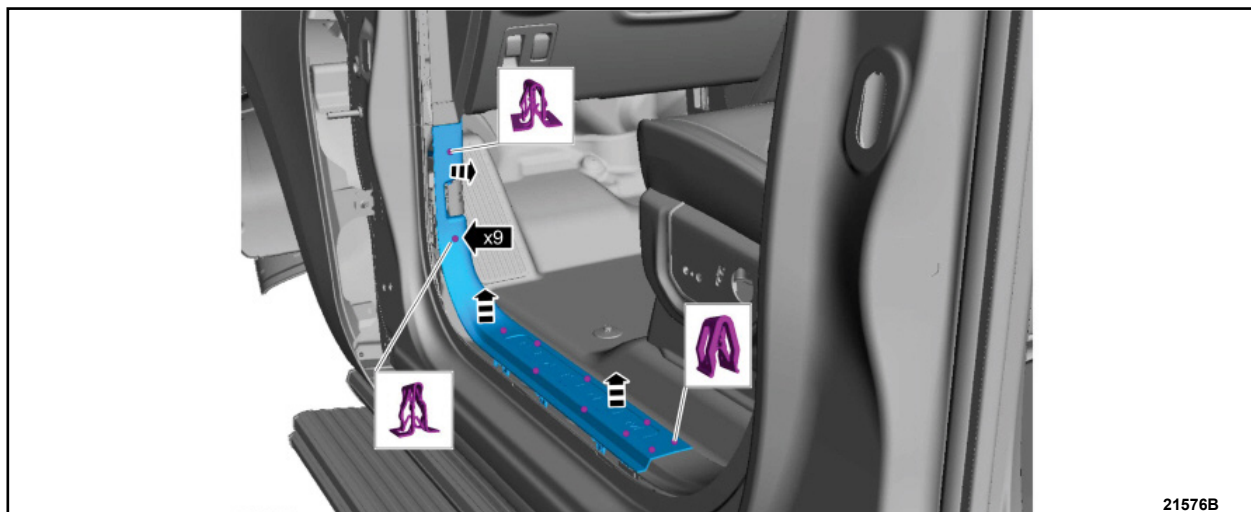

FIGURE 2
2. Release the clips and remove the front door scuff plate trim panel. See Figure 2.